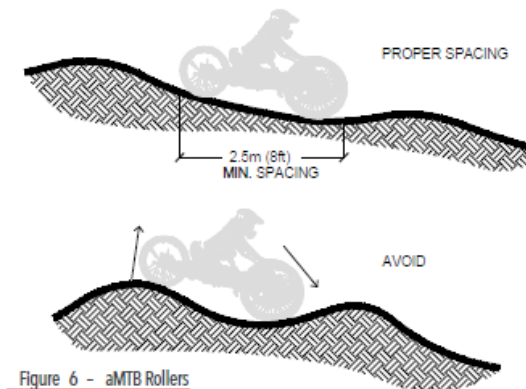

Figure 6 - aMTB Rollers
- Use cascading rollers to ensure rider can obtain momentum to carry over the flat and uphill portion of roller without pedaling (Refer to Figure 6).